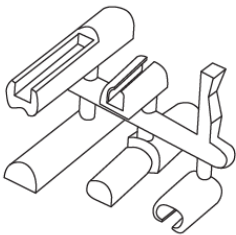
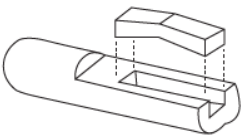

Figure 3
Figure 4
Step 7 – Temporarily mount the switch and place the original knob on the new switch shaft using one of the adapters on the Stem Adapter (**Figure 3**). Make sure the shaft goes in all the way. See (**Figure 4**) for assembly of the spring clip to adapter, if applicable.